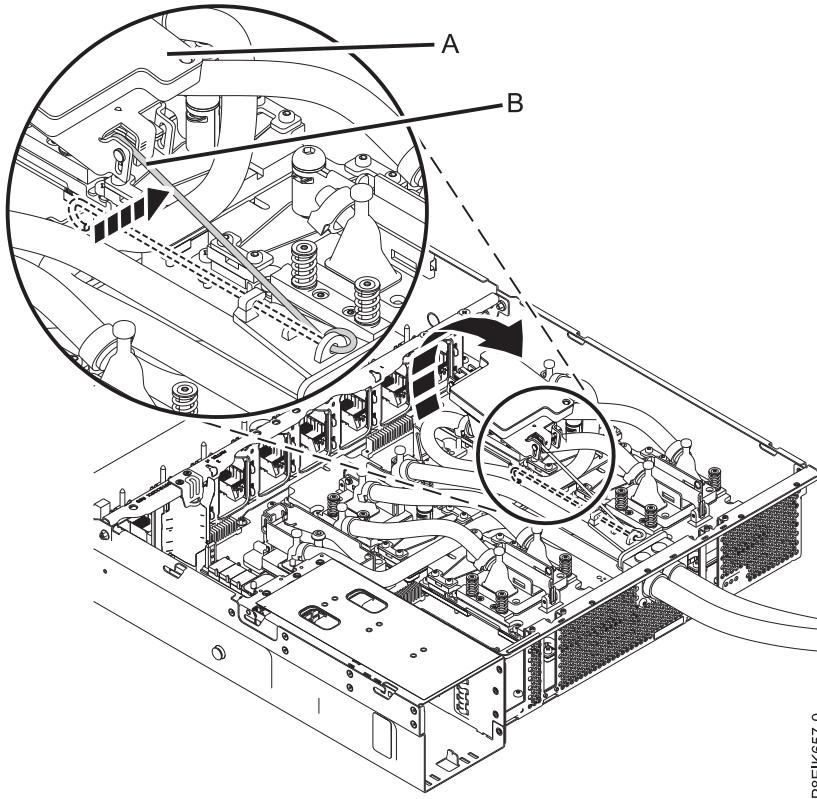

Figure 181. Removing the cold plate
- b. Lift the cold plate **(A)** off the system processor that you are removing and attach it to the service hook **(B)** as shown in Figure 181 on page 158.